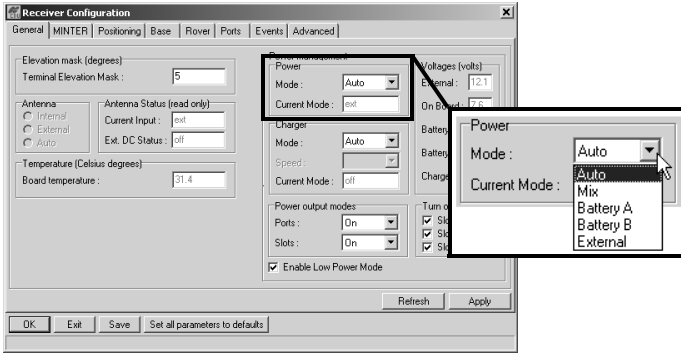

Figure 2-2. Select Power Mode
3. Select the *Power Mode* drop-down list to set the desired power source (Figure 2-2 on page 2-6). *Current Mode* displays the current power source.